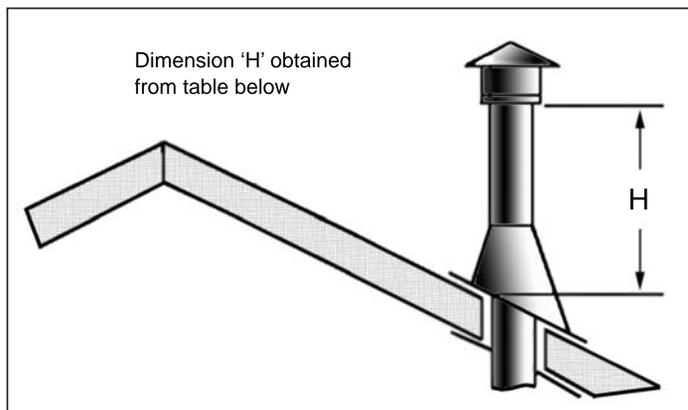

Figure 30: Height of Vertical Termination;
- STEP 8.** Continue to add pipe sections until the height of the vent cap meets the minimum code requirements. Refer to Figure 30 and Table 7. Note that for steep roof pitches, the vent height must be increased. In high wind conditions, nearby trees, adjoining roof lines, steep pitched roofs, and other similar factors can result in poor draft, or down drafting. In these cases, increasing the vent height may solve the problem.